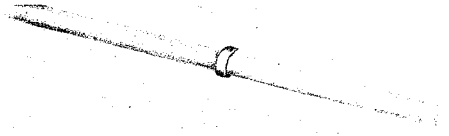

Fig. 2 — Staple
3.03 Staples used for fastening inside wire and cable have a galvanized finish which provides resistance to rust and corrosion. (See Fig. 2 and Table B.)